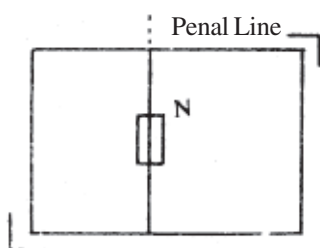
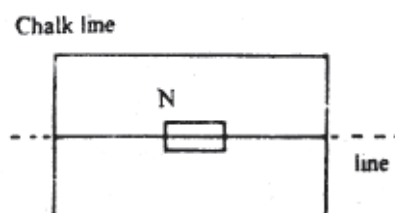

Fig. 28.3
Fig. 28.4
- (iii) Draw a line in pencil through the middle of paper along the short edge for performing the I part of experiment i.e. N-pole of magnet toward north as shown in Fig. 28.3. For the II part of the experiment line will have to be drawn parallel to long edge as shown in Fig. 28.4.
- (vi) Place the drawing board such that the line on paper in pencil is parallel to the line drawn in chalk on the table, as shown in two cases in Figures 28.3 and 28.4.
- (i) After placing the magnet as shown in Fig. 28.3 mark the boundary of board in chalk, so that its position is not displaced during the experiment. If at all it accidentally gets displaced, it can be put back in its original position.
- (i) For drawing the magnetic field in this case and locating neutral points place the drawing board with pencil line on paper parallel to long edge of board, along the N-S line of earth, as shown in the Fig. 28.4.